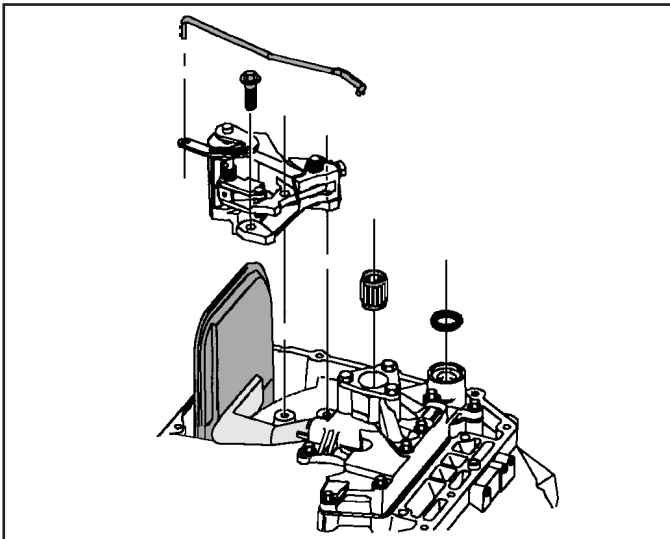

Figure 74
24. Remove the three 10mm retaining bolts from the parking pawl assembly and lift the assembly off the case (See Figure 74).
25. Remove the stator shaft needle bearing and O ring from the pump housing as shown in Figure 74.